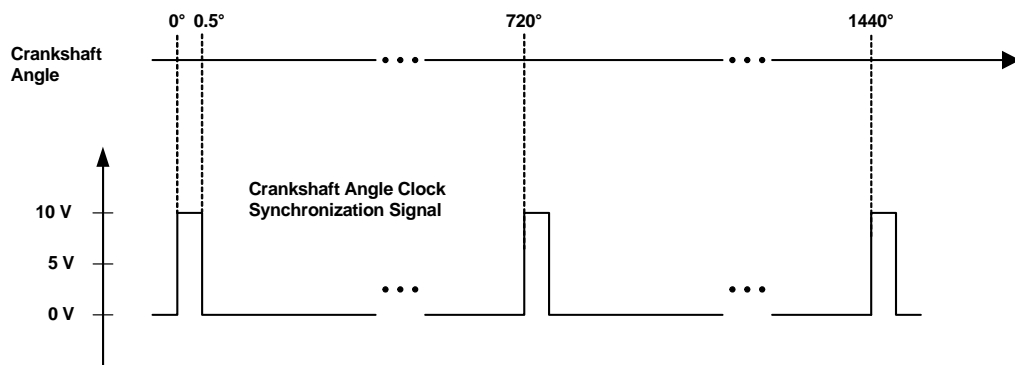

Fig. 9-9 Signal for Synchronizing to 0° Camshaft
- of the signal for synchronizing to 0° camshaft (see Fig. 9-9)